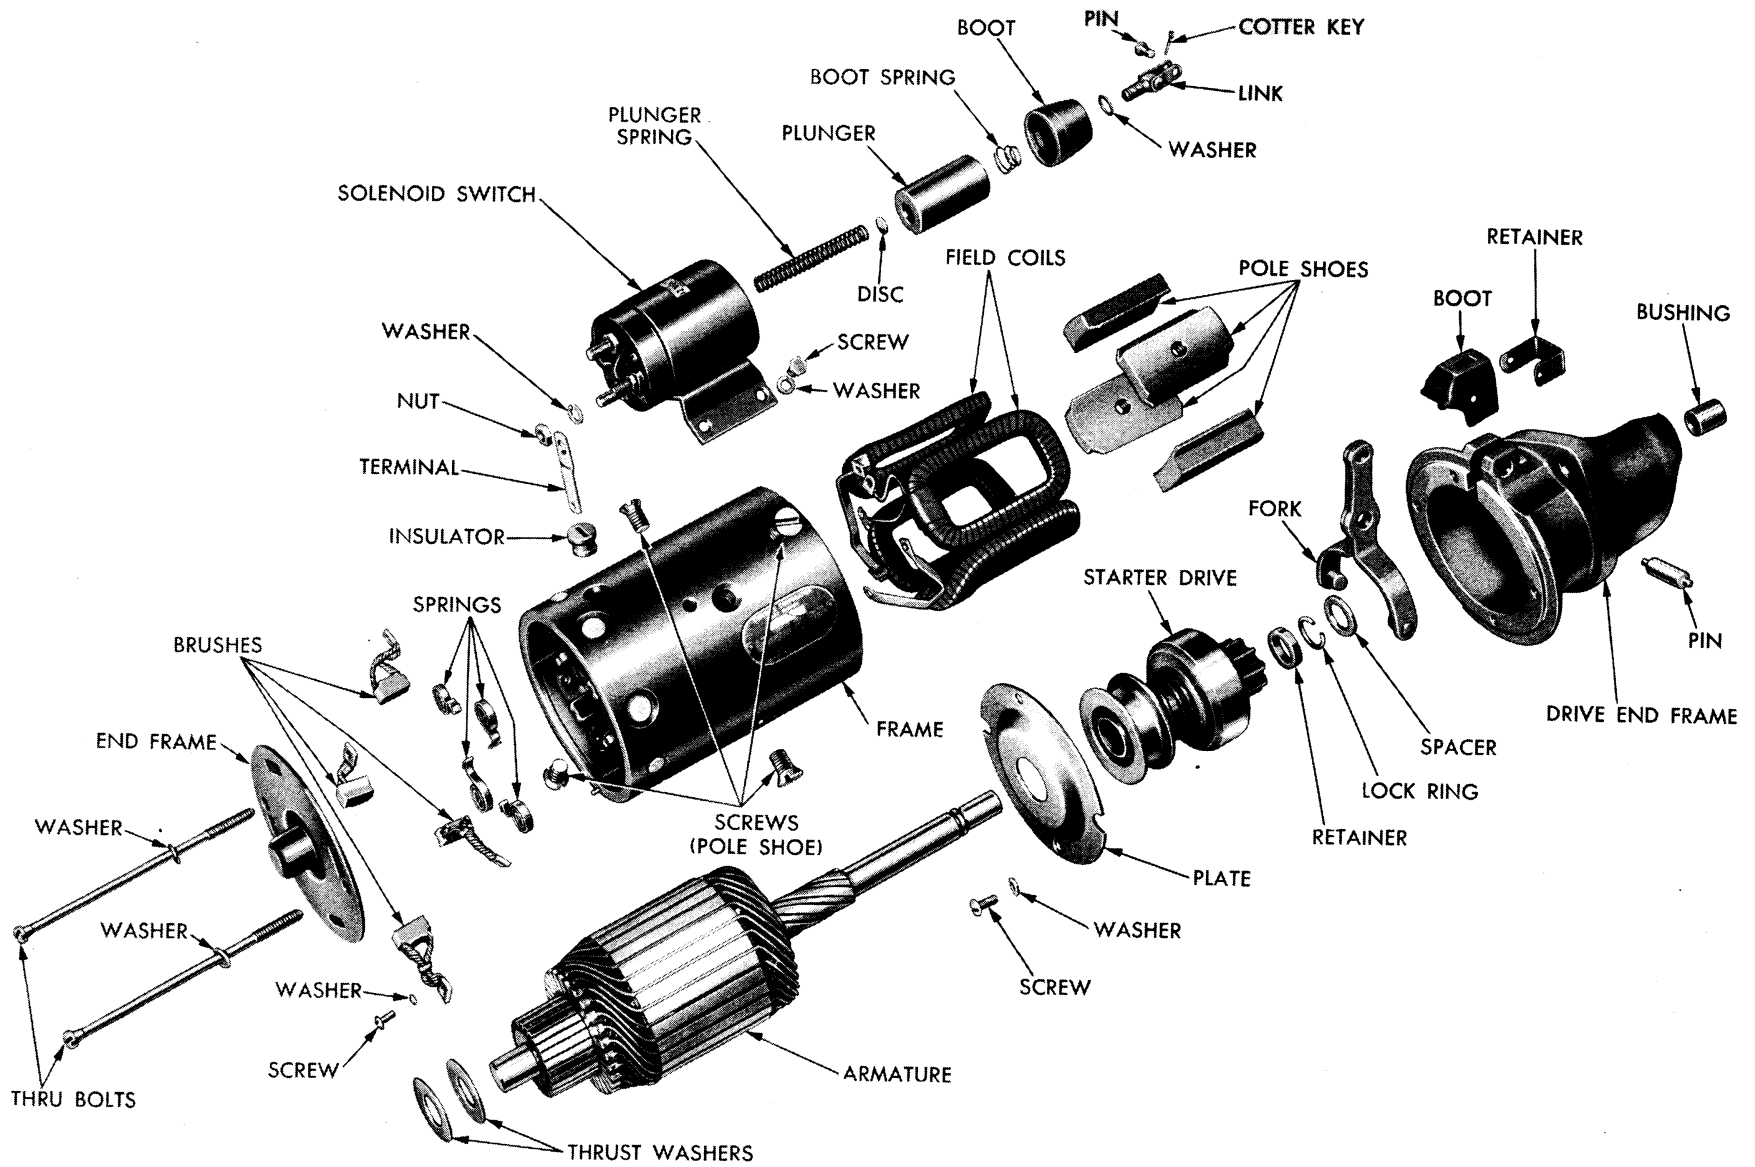

Fig. 4—12-Volt Starter Motor
6. DISASSEMBLING THE STARTER (FIG. 4)
(Refer to Figure 4.) Assemble drive end parts on armature and slide assembly into field frame until end of commutator touches brushes. While holding armature against brushes with slight pressure, push brushes up and allow them to come to rest on commutator. When all brushes are seated on commutator, slide armature assembly into place. Install commutator end frames and through bolts. Make sure end frames are positioned on dowel pins, and tighten through bolts. Install solenoid switch assem-
Adjust belt tension by measuring with a scale applied at center of longest span between pulleys. The deflection should be $\frac{1}{4}$ inch with a 9 to 12 pound pressure. See "Cooling System" Section V Fig. 4.